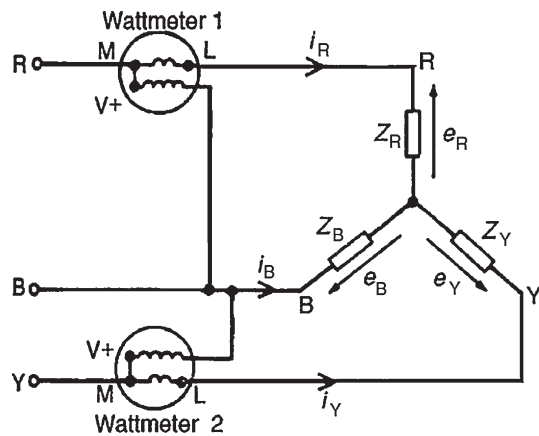

Figure 20.15
- (a) A connection diagram for the two-wattmeter method of a power measurement is shown in Fig. 20.15 for a star-connected load.
However,  $(e_R - e_B)$  is the p.d. across wattmeter 1 in Fig. 20.15 and  $(e_Y - e_B)$  is the p.d. across wattmeter 2. Hence total instantaneous power,